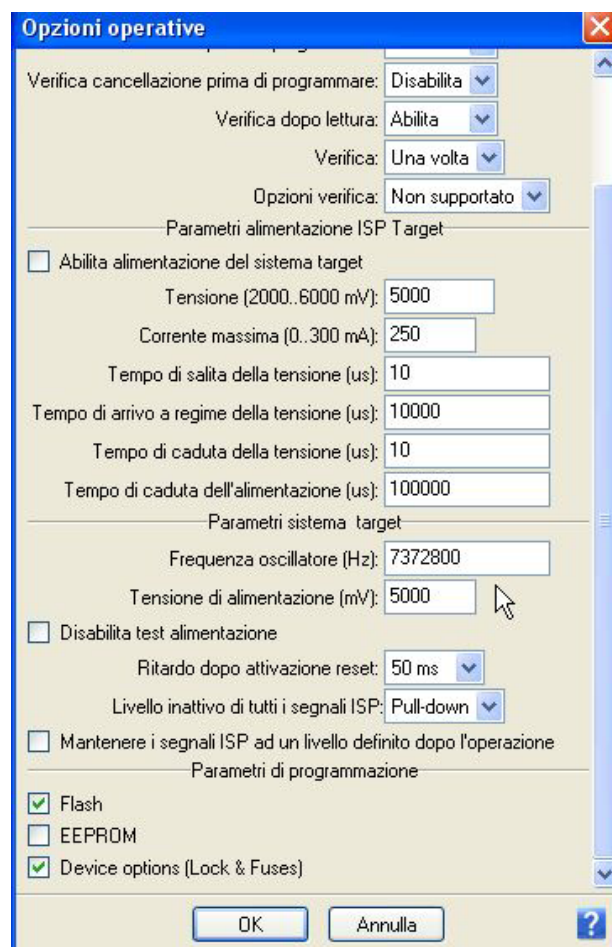

FIGURE B-9: PROGRAMMER CONFIGURATION USING PG4UW
- B7) Configure the programmer using the menu Device options | Operating options. Programmer must be configured as indicated in figure B-9.